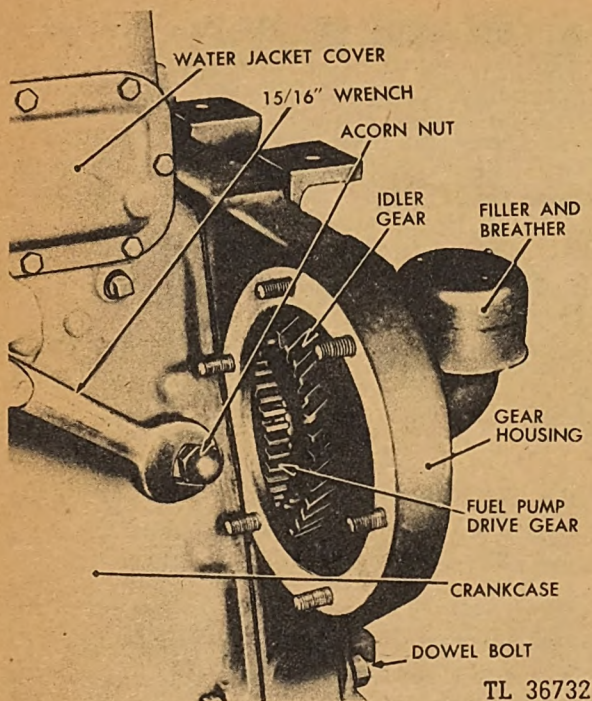

Fig. 80. Removing Idler Gear Stub Shaft Setscrew Acorn Locknut
(10) Remove the acorn nut just back of the fuel injection pump as shown in Figure 80 before attempting to remove the pump. The pump is removed in Figure 80 so that the acorn nut position is clearly visible.
h. *Removing Idler Gear Stub Shaft.* Unscrew the setscrew revealed in Figure 80 when the acorn nut was removed. This setscrew securely holds the idler gear shaft in place.